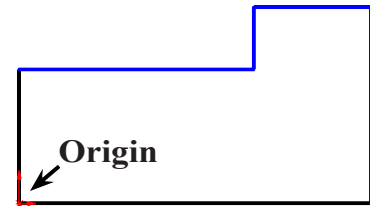

Fig. 2
Step 3. Click **Line**  (L) on the Sketch toolbar.
Step 4. Sketch **6 lines with Origin**  in the bottom left corner, **Fig. 2**.